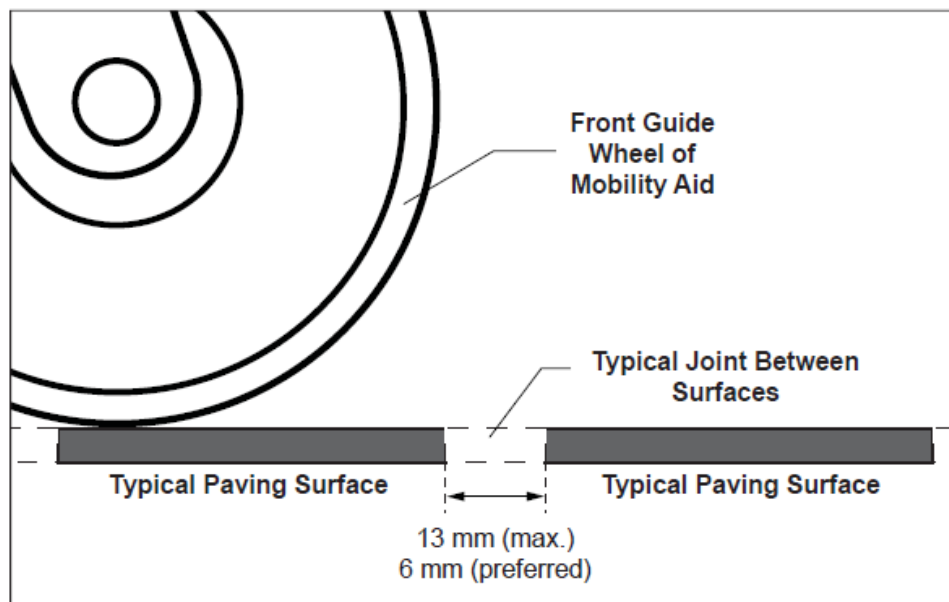

Figure 8: Joints between surfaces – section view
- Have joints between surfaces no wider than 13 mm (maximum) or 6 mm (preferred) See Figure 8